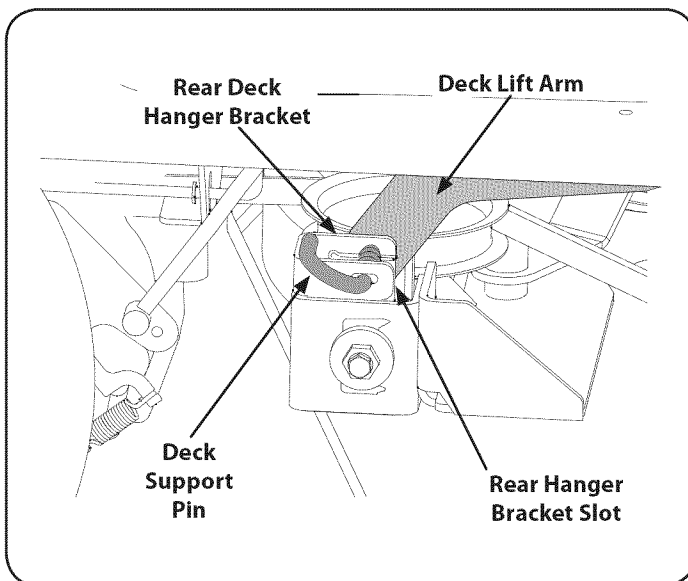

Figure 38
6. Locate the LH and RH deck support pins on each side of the deck. Pull the deck support pins outward and lock in the disengaged position to release the deck from the riding mower's LH and RH deck lift arms. Refer to Figure 38.
4. Maneuver the deck so that the slots in the two rear deck hanger brackets approximately align with the deck lift arms of the riding mower. Refer to Figure 38.
6. Pull the deck support pins outward and maneuver the deck as necessary to align the holes in the deck lift arms with the pins. Refer to Figure 38.